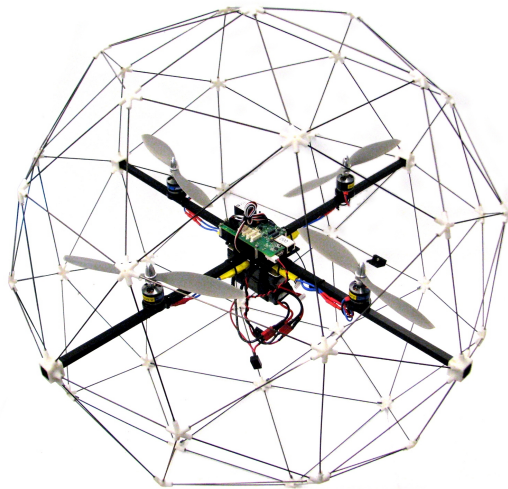

Figure 1: Quanser Qball-X4
The Quanser Qball-X4 (Figure 1) is an innovative rotary wing vehicle platform suitable for a wide variety of UAV research applications. The Qball-X4 is a quadrotor helicopter design propelled by four motors fitted with 10-inch propellers. The entire quadrotor is enclosed within a protective carbon fiber cage (Patent Pending). The Qball-X4's proprietary design ensures safe operation as well as opens the possibilities for a variety of novel applications. The protective cage is a crucial feature since this unmanned vehicle was designed for use in an indoor laboratory, where there are typically many close-range hazards (including other vehicles). The cage gives the Qball-X4 a decisive advantage over other vehicles that would suffer significant damage if contact occurs between the vehicle and an obstacle.
- **Qball-X4:** Qball-X4 as shown in Figure 1 above